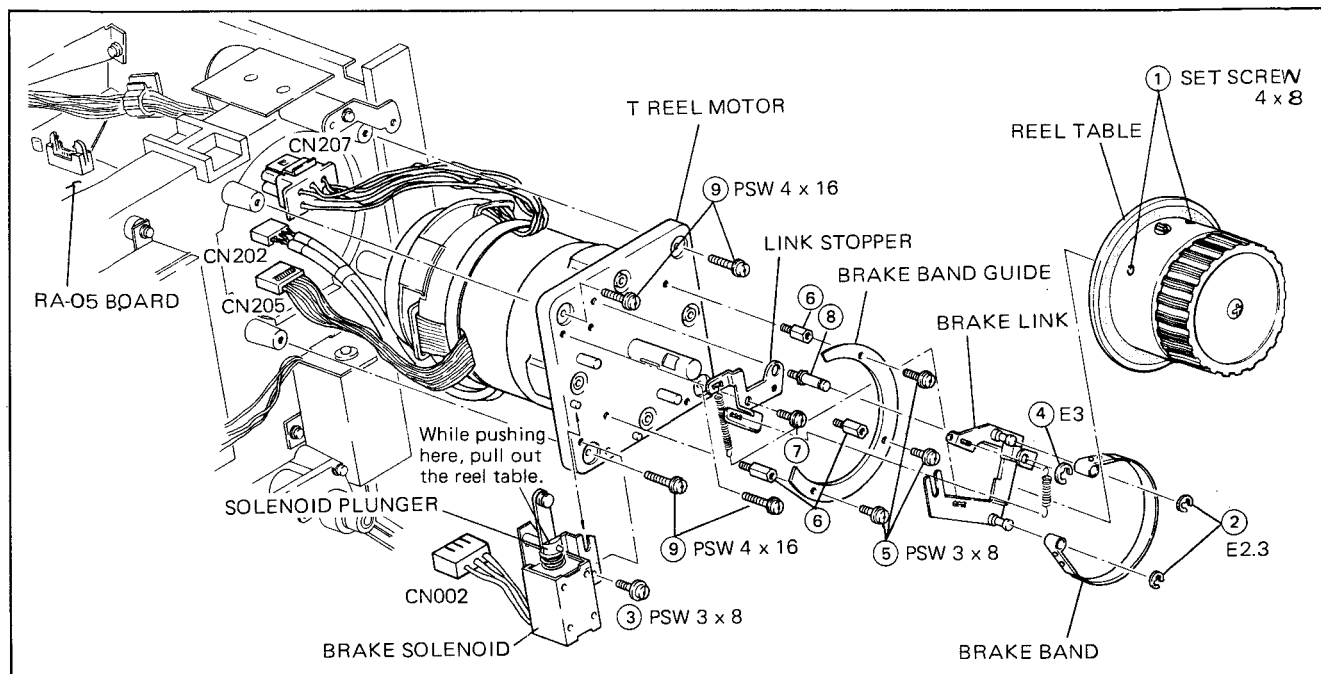
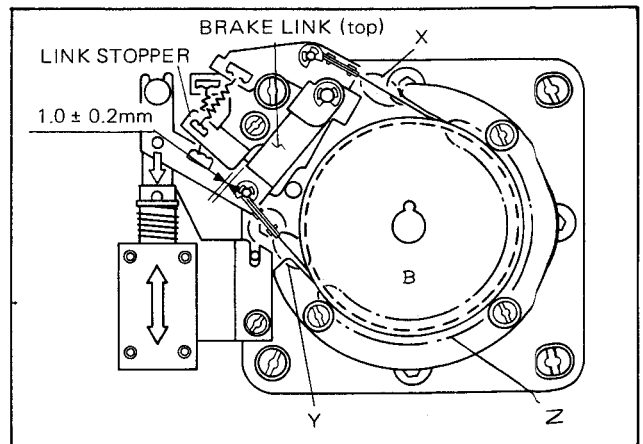

Fig. 3-26. T reel Motor Replacement
Fig. 3-28. Link Stopper/Brake Solenoid Position Adjustment
3. Loosen the two set screws ① shown in Fig. 3-26. While pushing the solenoid plunger by hand, pull out the reel table.
4. Remove the two E rings ②, and remove the brake band.
5. Remove the screw ③, and remove the brake solenoid assembly.
6. Remove each one end of the two springs installed between link stopper and brake links. Remove the E ring ④, and remove the brake links.
7. Remove the three screws ⑤, and remove the brake band guide.
8. Remove the three brake band posts ⑥.
9. Remove the screw ⑦ and the brake post ⑧ which secure the link stopper.
10. Remove the four screws ⑨, and remove the T reel motor.
18. Place the brake link onto the brake post and fix it with E ring ④ (see Fig. 3-26).
20. Lightly fix the brake solenoid assembly with the screw ③.
22. Do not push the plunger and adjust the position of the link stopper so that the clearance between the link stopper and the brake link (top) is the value shown in Fig. 3-28.
23. When the plunger has been pressed, adjust the position of the brake solenoid so that the brake band is not transformed at the "X" and "Y" locations shown in Fig. 3-28, and the clearance between the brake adjustment fixture and the brake band is 0.2 mm or more all along the "Z" location. After the adjustment, fix the brake solenoid with a PSW3×8 screw.